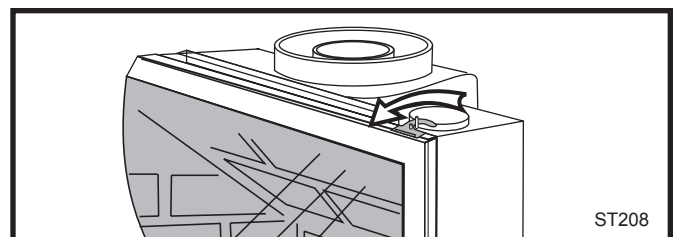

Fig. 59 Release the latches to release the glass frame.
2. Swing open the swiveling latches at the top left and right corners of the glass frame. (Fig. 59, Page 29)